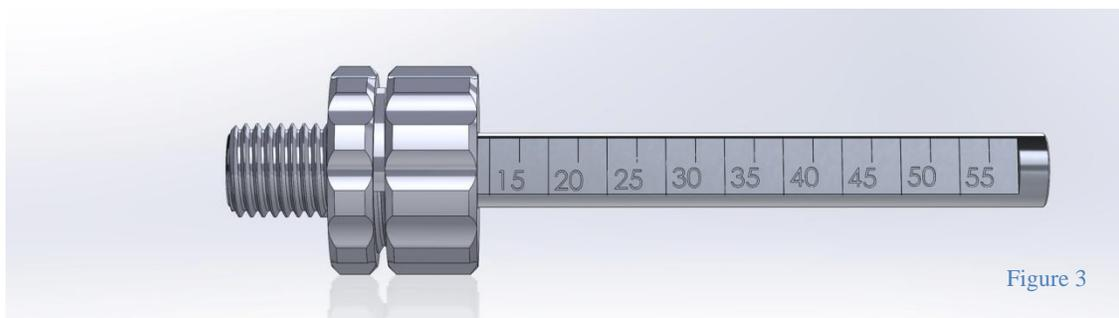

Figure 3
- Remove an assembled needle guide assembly (collet and calibrated guide tube) from its sterile envelope and slide the guide tube inside the collet until the proximal end (the end with the holes) is contained completely inside the collet (see Figure 3) and screw the collet into the plastic insert at the top of a Leksell fixation post